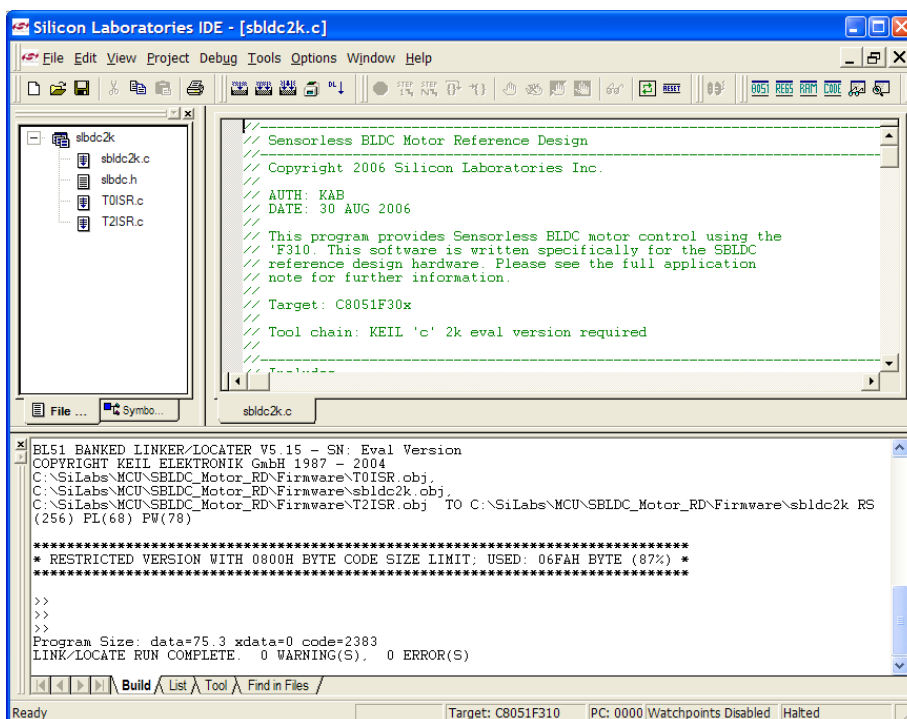

Figure 9. Sensorless BLDC Motor Project
5. Select “Rebuild All” from the project menu or click on the “Rebuild All” button. (The IDE will compile and link the sbldc.c file as shown in Figure 9.)